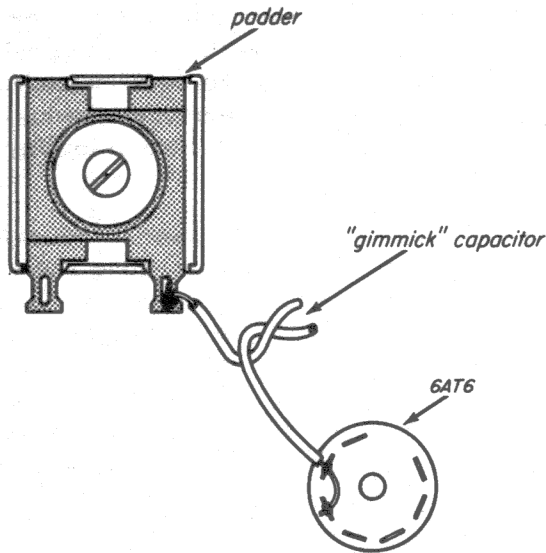

Fig. 31-4
Step 2. Cut the wire in the middle, and then twist the cut ends together for about $\frac{1}{2}$ turn, as shown in Fig. 31-4. This produces a very small capacitor, which can be used for taking out a small amount of signal with a minimum of disturbance to the oscillator.